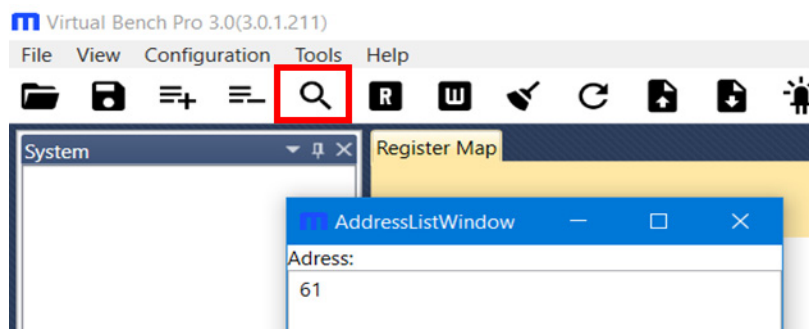

Figure 2: Find the I²C Device Address
4. Open Virtual Bench Pro and click the search icon to find the I²C device address (see Figure 2).